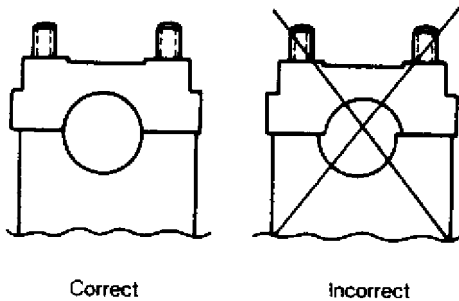

Fig. 6: Checking Camshaft Bearing Cap Alignment
1) Before installing camshaft, lubricate camshaft journals and bearing surfaces in cylinder head and caps. Install camshaft. Make sure that oil spray jet orifice is at 90° to camshaft. Install caps No. 2 and No. 4. Make sure caps are not misaligned. See Fig. 6.